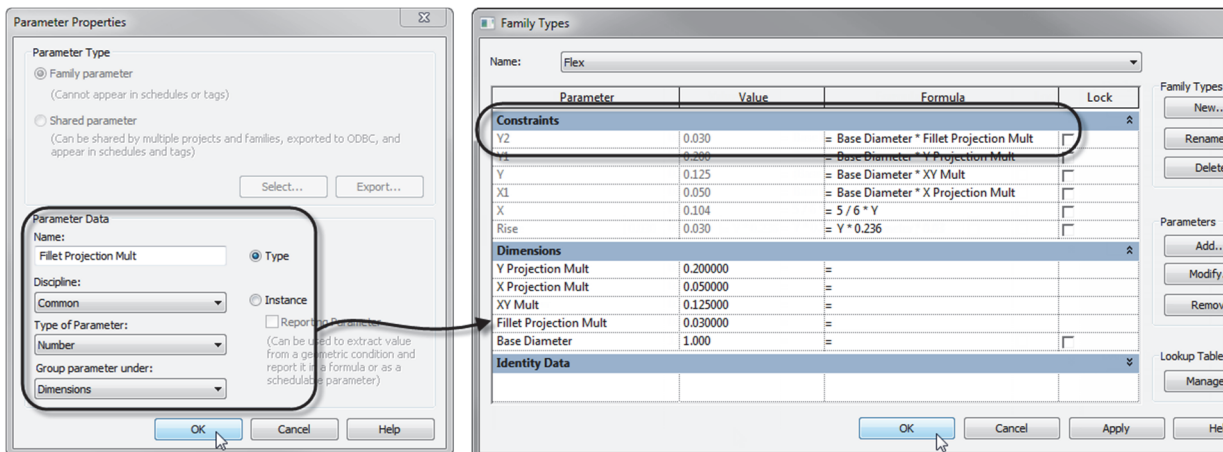

FIGURE 4.45
- ⇒ Set the value of Fillet Projection Mult to **.030** (see the left side of Figure 4.45).
6. In the Formula field next to Y2, input: **Base Diameter * Fillet Projection Mult** and then click OK (see the right side of Figure 4.45).